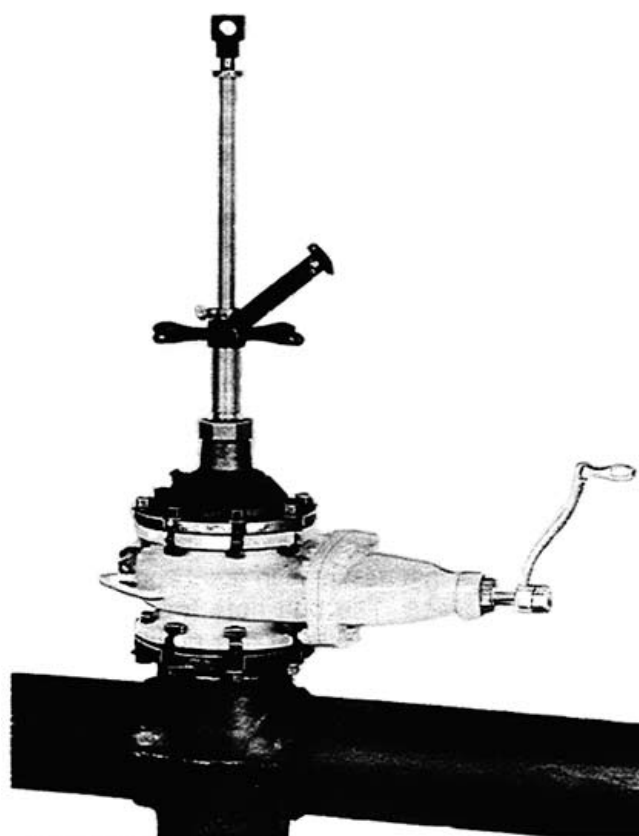

FIGURE 11
8. Attach completion machine to gate valve. **Figure 11.** It is not necessary to use all the bolts at this point.